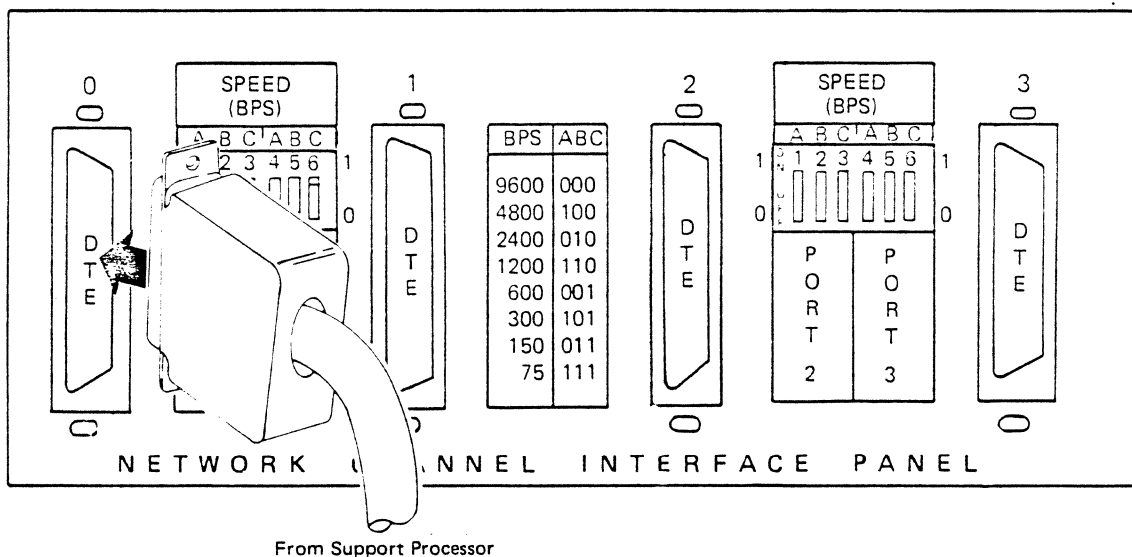

Figure 8-2. Connecting the Support Processor Data Cable to the NCI
2. Connect one end of an NCI cable (PN 6431052, PN 6431053, or PN 6431196) to the COM1 asynchronous port (DTE connector) on the PC/XT. Connect the opposite end to a port on the Network Control Interface Panel (NCI)(Figure 8-2), as indicated on the cabling forms. The port is generally port 0.